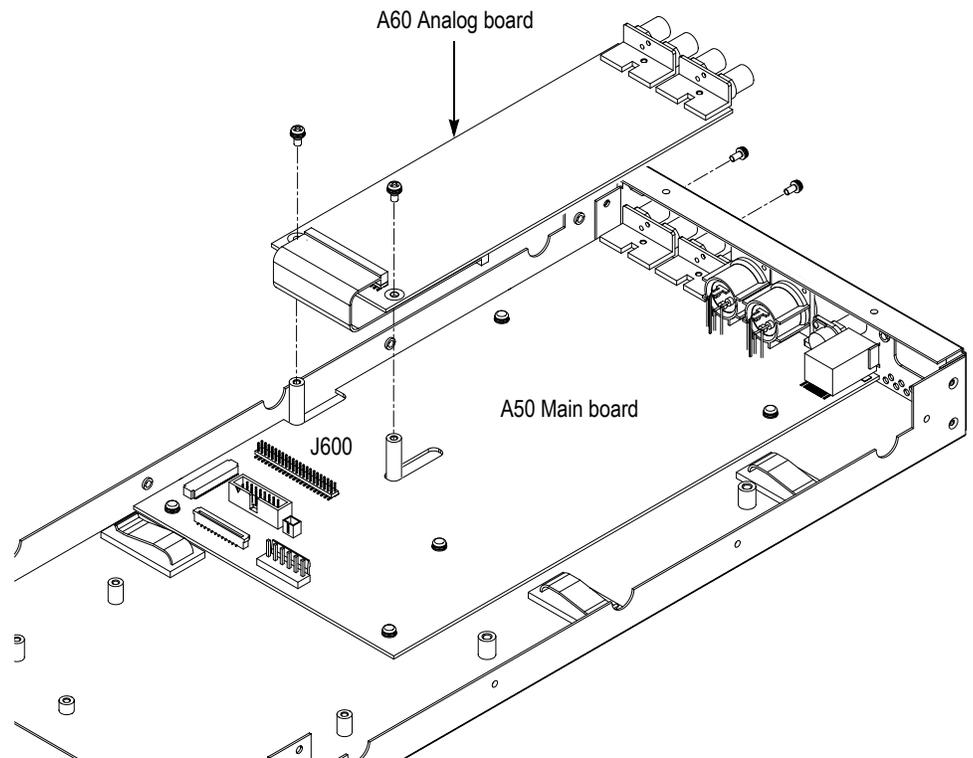

Figure 11: Removing the A60 Analog board
1. Use a screwdriver with #1 Phillips tip to remove the two screws securing the A60 Analog board to the rear of the chassis. See Figure 11.
2. Use a screwdriver with #2 Phillips tip to remove the two screws securing the A60 Analog board to the bottom of the chassis. See Figure 11.